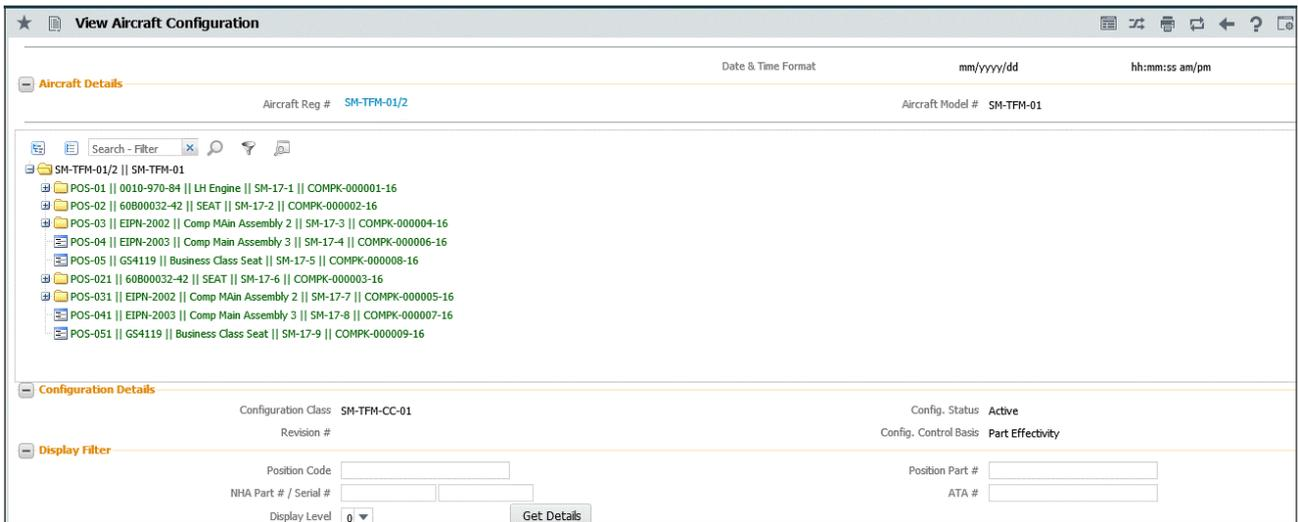

Figure 4.7 Replication of Aircraft Configuration information in OU3
11. Aircraft master record is created in the maintenance operating unit (OU3), Ownership of the Aircraft is updated as Customer, with Customer mapped to Partner ID of the operating unit (that sends aircraft) as the owning agency. Configuration of the Aircraft from OU2 is updated in the Aircraft record created in OU3. See Figure 4.7.